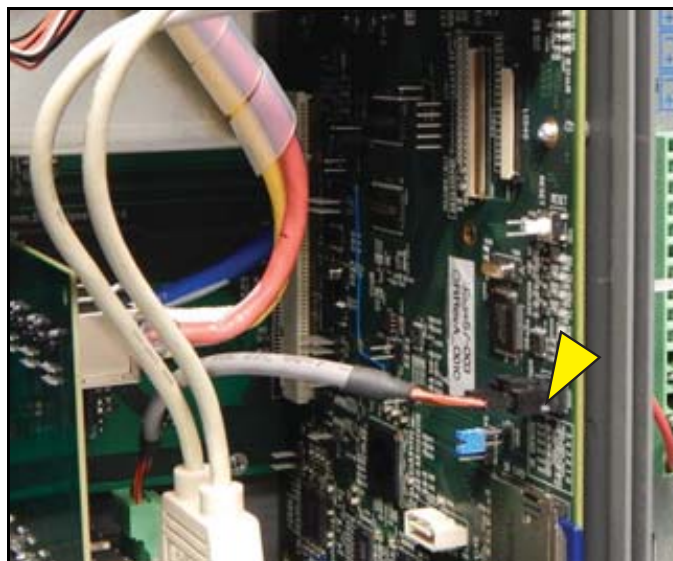

Figure 18. Connect Wireless Cable
5. Connect the Wireless cable to the CPU board (see Figure 18).